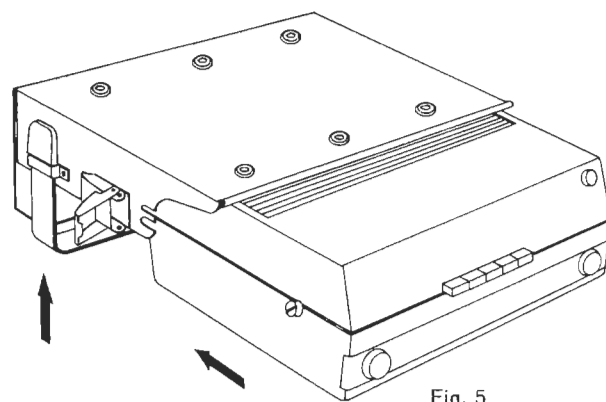

Fig. 5
3. Place the receiver with the speaker grille facing downwards. Lift it upwards against the upper part of the mounting bracket and slide it back so that the two pins to which the handle was fastened slide into matching notches on the mounting bracket (Fig. 5).
4. Close the locking devices down around the pins, thereby pulling the receiver firmly into position (Fig. 5).
5. Pushing from below, slide the handle upwards into the two straps on the sides of the mounting bracket (Fig. 5).